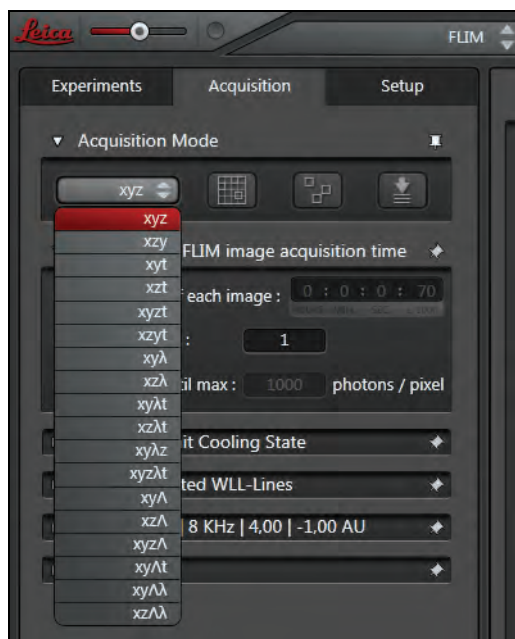

Figure 137: Selecting a scan mode
2. In the **Setup FLIM** step on the **Acquisition** tab, select either the **Acquisition Mode xyz** or **xzy** as the scan mode (**Figure 137**). Optimize the instrument parameter setting for FLIM measurement.